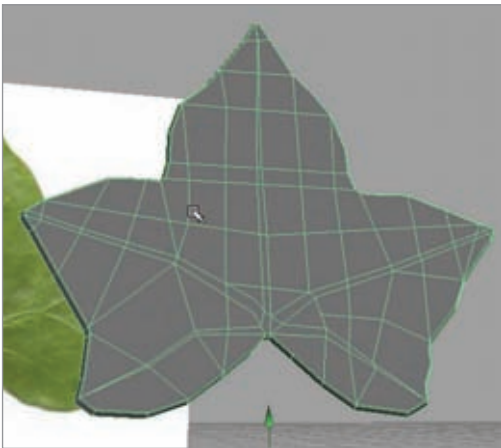

Figure 2.4
1. Using the Split Polygon tool, start cutting in geometry in the path and shape of the leaf veins. You can also cut in geometry to help with bending later. Figure 2.4 demonstrates what I mean.